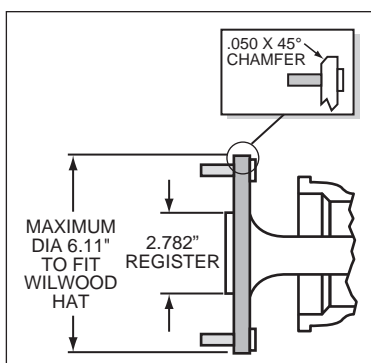

Figure 2. Axle Flange Maximum Dimension
- Maximum axle flange diameter must be no larger than 6.61" w/.050" x 45° chamfer (see Figure 2).